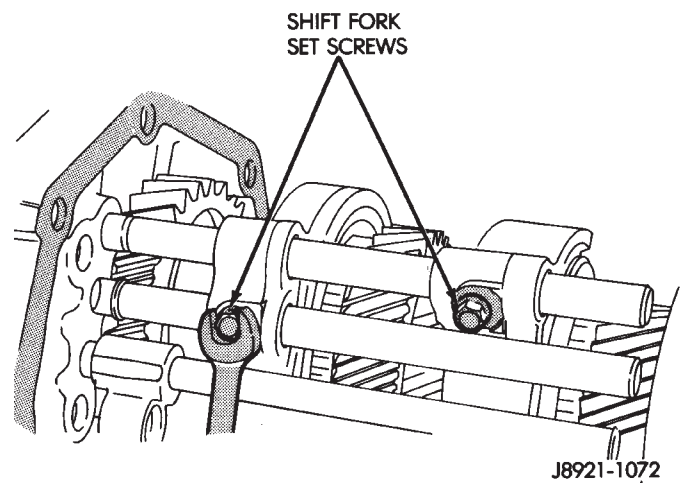

Fig. 95 Installing Shift Fork Set Screws
(12) Install and tighten shift fork setscrews to 20 N·m (14 ft. lbs.) torque (Fig. 95).